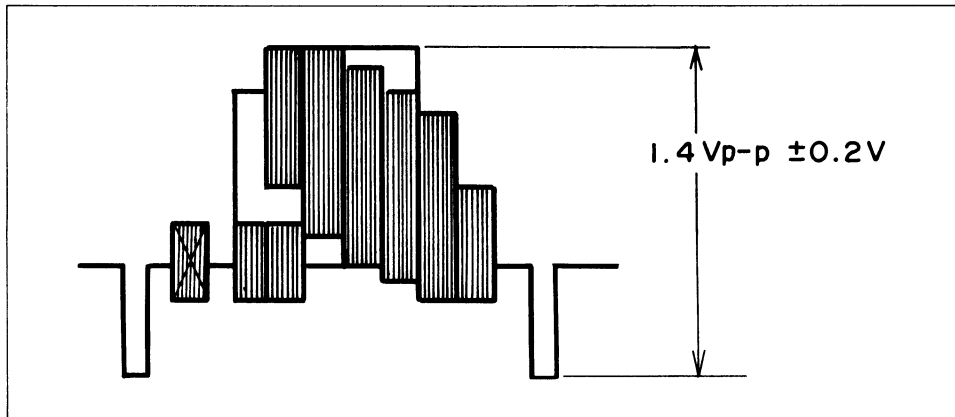

Fig. 5-49. AGC output waveform
2. Under this condition, verify that TP-2 is 1.4 volts p-p  $\pm 0.2$  volt. See Fig. 5-49.